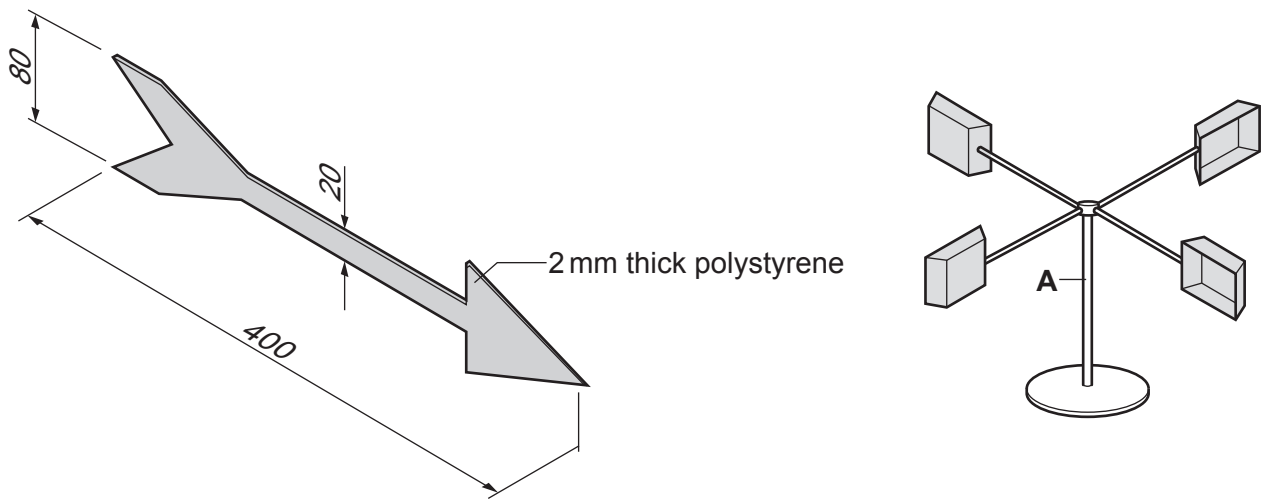

Fig. 13.8
- (f) Fig. 13.8 shows details of a weather vane that will be attached to the column of the wind gauge at position **A**.